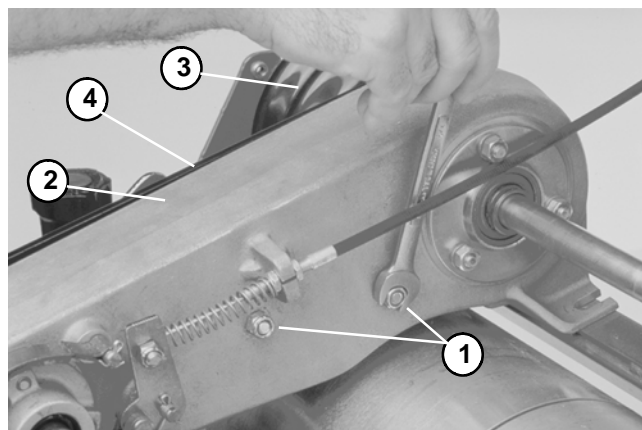

Figure 59
12. Remove three cap screws and lock washer securing the box cover to the countershaft housing. Pull cover from housing. Loosen both carriage bolts and lock nuts securing the idler pulley to the countershaft housing. Slide idler pulley away from the belt (Fig. 59).